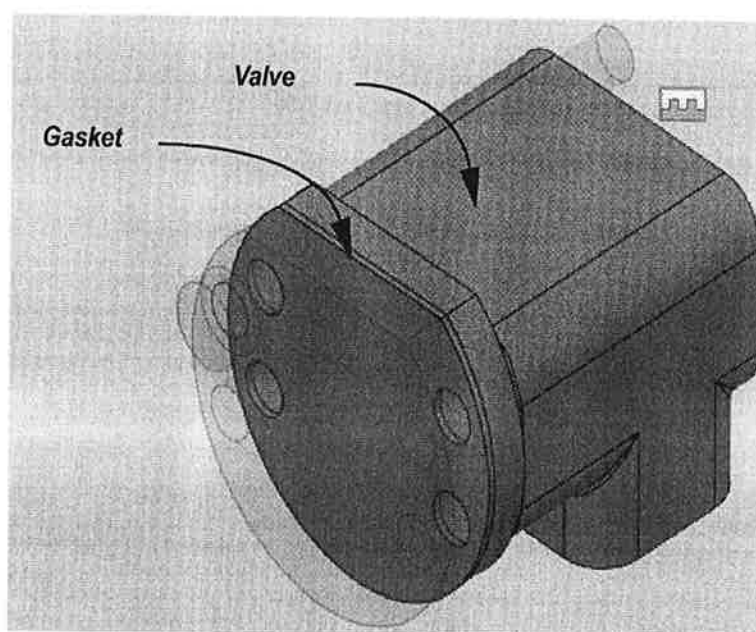

Figure 16-25
- In the BROWSER or in the graphics window, select the Valve and Gasket components, as shown in Figure 16-25. A shaking animation displays indicating that the two components are now rigidly connected.